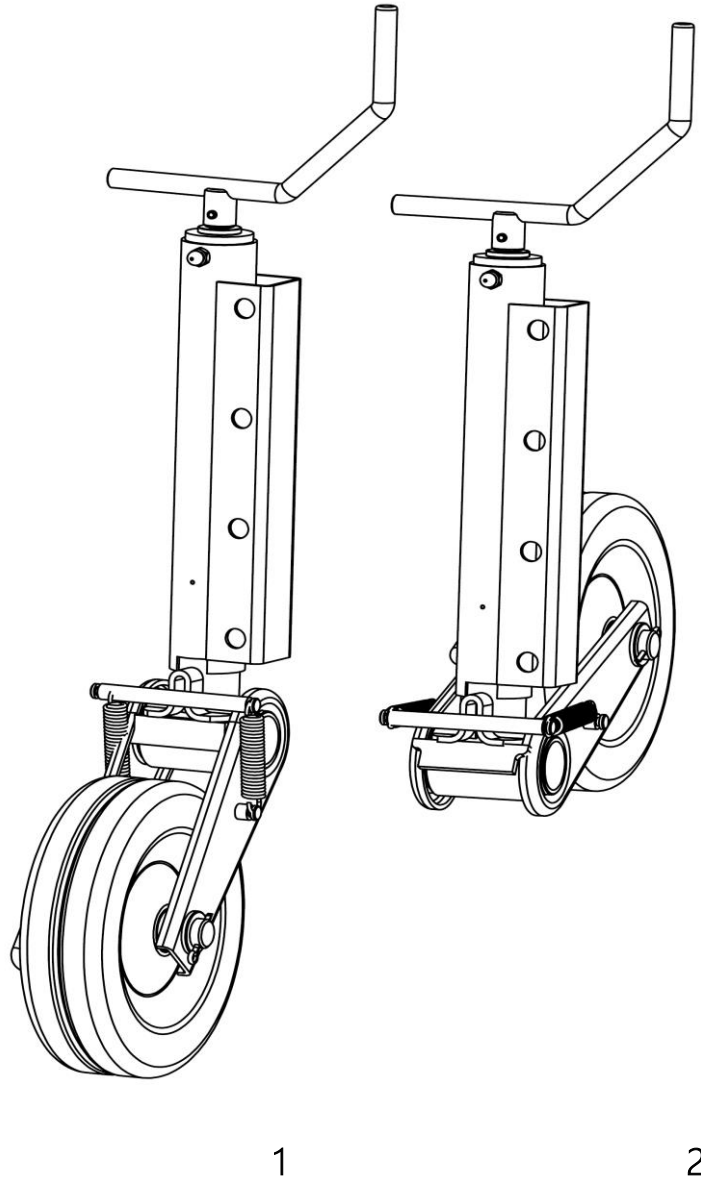

Fig. 11. Support of trailer's drawbar.
5. Using the lever, raise the support wheel and move it to the transport position according to figure 11.